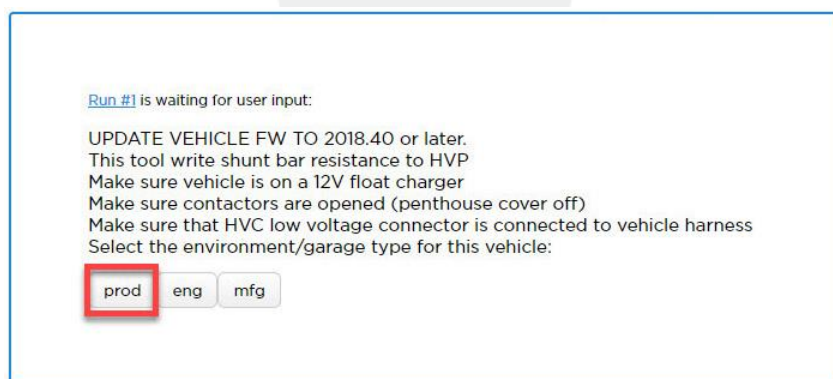

Figure 5
10. Select the **prod** environment (Figure 5).